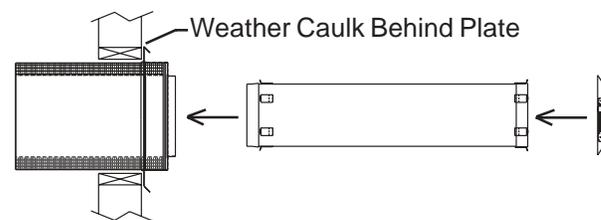

Fig. 15
2. Position the Wall Termination Assembly into the enlarged hole from the outside (Fig. 15). Secure the assembly using common construction methods. Seal under the screw heads with caulking. Reinstall the decorative sheathing around the Wall Termination Assembly. The assembly may be painted to match the exterior decor.